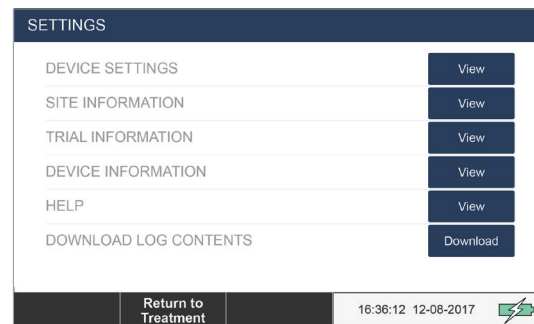

Figure 17 Settings Screen
9. The **Settings** screen allows you to access **Device Settings**, view information and help, or download log contents (see Figure 17).